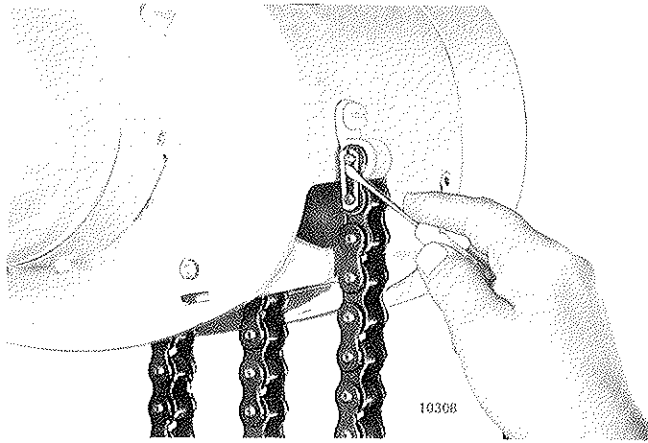

Figure 7-1. Removing Spring Clip from Connecting Link at Tail End of Load Chain (Roller Chain Models)
twists, broken links, wear or elongation. Check roller chain for elongation from wear by pulling chain taut and measuring as follows: On RC-625 or H-5 size chain (5/8" pitch) measure distance over a length of 20 pitches, center of one rivet to center of the 21st rivet away must not exceed 12-7/8 inches: on RC-750 or H6 size chain (3/4" pitch) measure length of 16 pitches, center of one rivet to center of 17th rivet away must not exceed 12-3/8 inches. If chain exceeds these limits replace damaged section or install new load chain assembly using only factory approved chain. If chain is to be spliced to replace damaged section, it is recommended that this be done by an Authorized Repair Station since splicing link must have a spun head requiring special tools. Spring link must not be used except to secure the tail chain to the hoist frame. (See figure 7-1).
(1) On models with single-reeved load chains (1/8 thru 1 ton capacities) disconnect tail end of load chain from anchor at side of frame. Remove spring clip and connecting link attaching chain to anchor on roller chain models (fig. 7-1). Remove fillister head screw holding end link to frame on coil chain models. With hoist connected to power supply, run